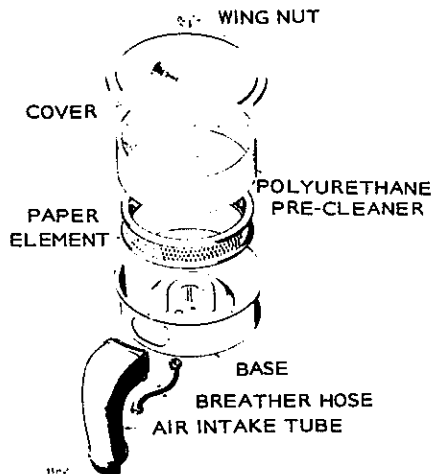

FIGURE 7-23. AIR CLEANER ASSEMBLY
1. To clean pre-cleaner wash in water and detergent referring to Figure 7-23. Remove excess water by squeezing like a sponge and allow to dry thoroughly. Distribute three tablespoons of SAE30 engine oil evenly around pre-cleaner. Knead into and wring excess oil from pre-cleaner.